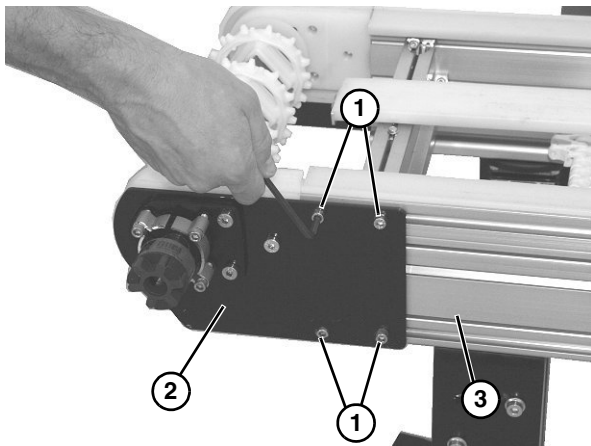

Figure 39
2. Loosen the four socket head screws (**Figure 39, item 1**). Repeat on opposite side.
3. Remove the drive tail assembly (**Figure 39, item 2**) from the frame (**Figure 39, item 3**).